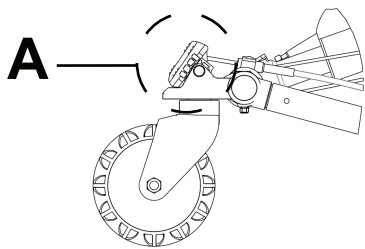

Figure 13 – Wheel lock on
To apply a wheel lock (A), press the red pedal down and away from the middle of the cot X-frame (Figure 13).